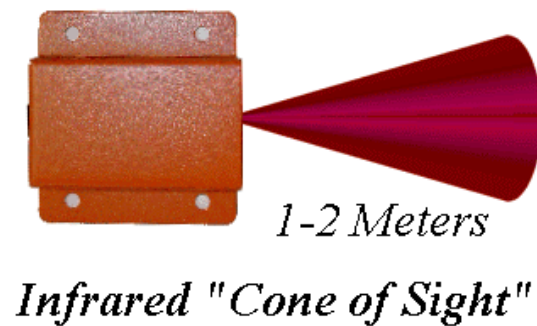

Figure 8.3: IR 30° Cone of Sight
- Step 4.** Beam the Palm or Pocket PC IR port at the IR adapter connected to the PLC (from 4" to a maximum of about 6 to 10 feet away from the IR adapter). This range depends on many factors. For the IR-Link to function properly, the IR beam from the Palm or Pocket PC to the IR adapter should have a clear 'cone of sight', just like a TV remote controller (Figure 8.3).